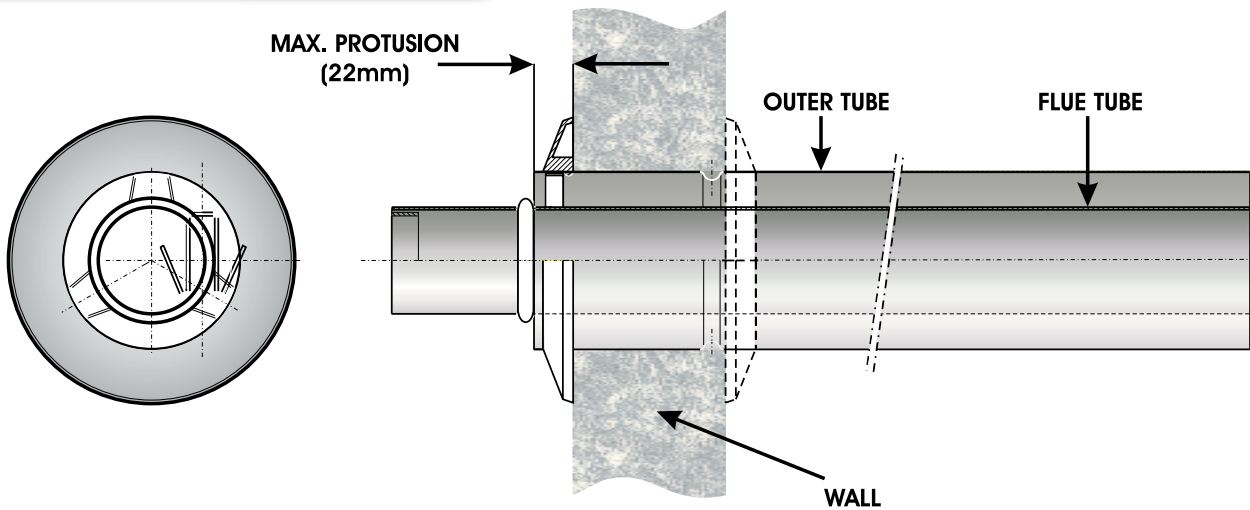

FIGURE 3
- 8.2.4 Figure 3 shows recommended terminal positions
- 8.3.6 Figure 3 shows recommended terminal positions.